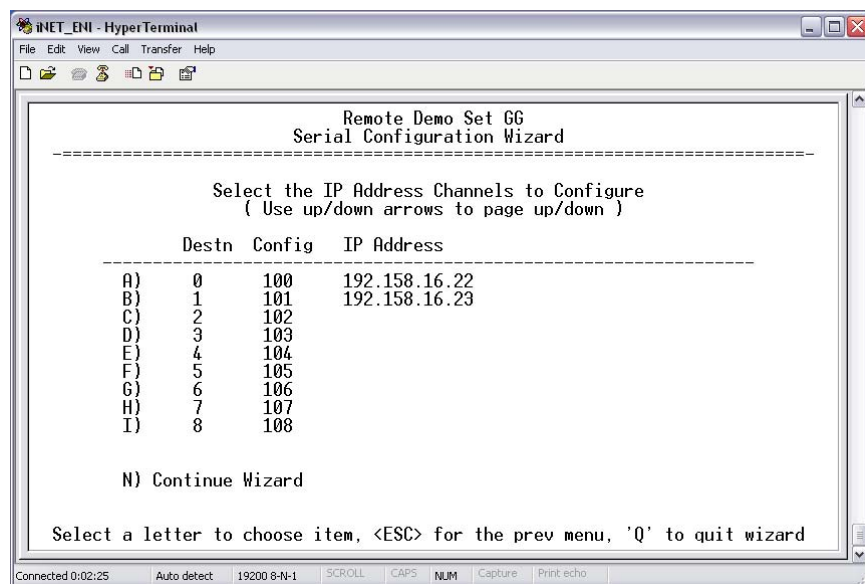

Figure A-4. Enter Destination IP Addresses
- Press **A** through **I** (and the **up/down arrow keys**, if necessary), then enter the appropriate IP addresses to configure the Message Routing table. See Figure A-4. When finished, press **N** to continue.
NOTE: The IP address fields shown in Figure A-4 are equivalent to the *Message Routing* table discussed in the Allen-Bradley MicroLogix™ Ethernet Interface User Manual (1761-UM006C-EN-P). Refer to that manual for more information.